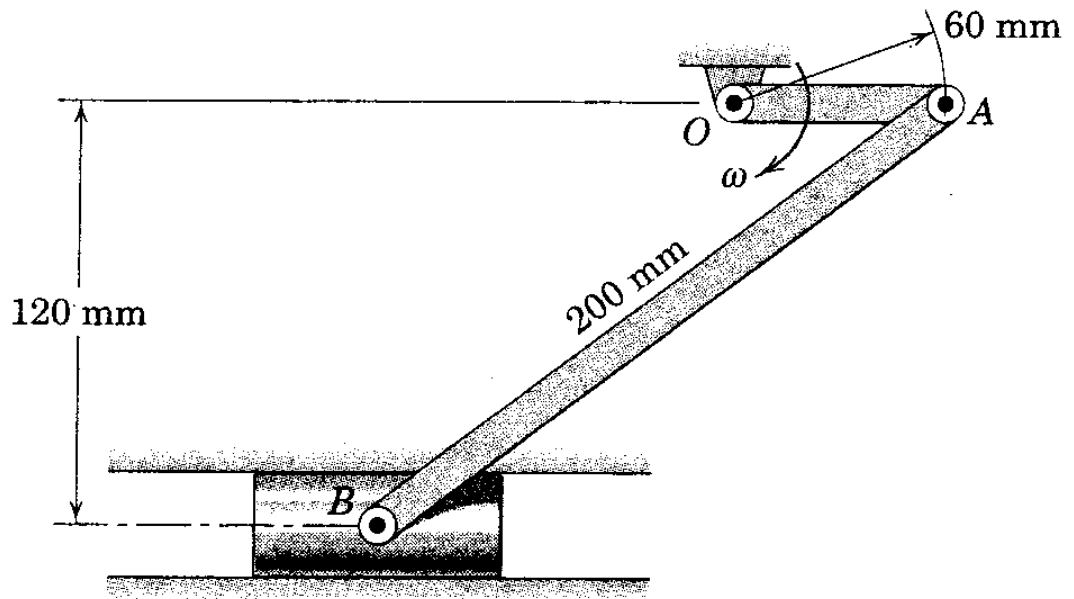

Figure 1 / Rajah 1
- (a) For a short interval of motion link as shown in figure 1, crank OA has a constant angular velocity $\omega = 4$ rad/s. Construct the velocity diagram.